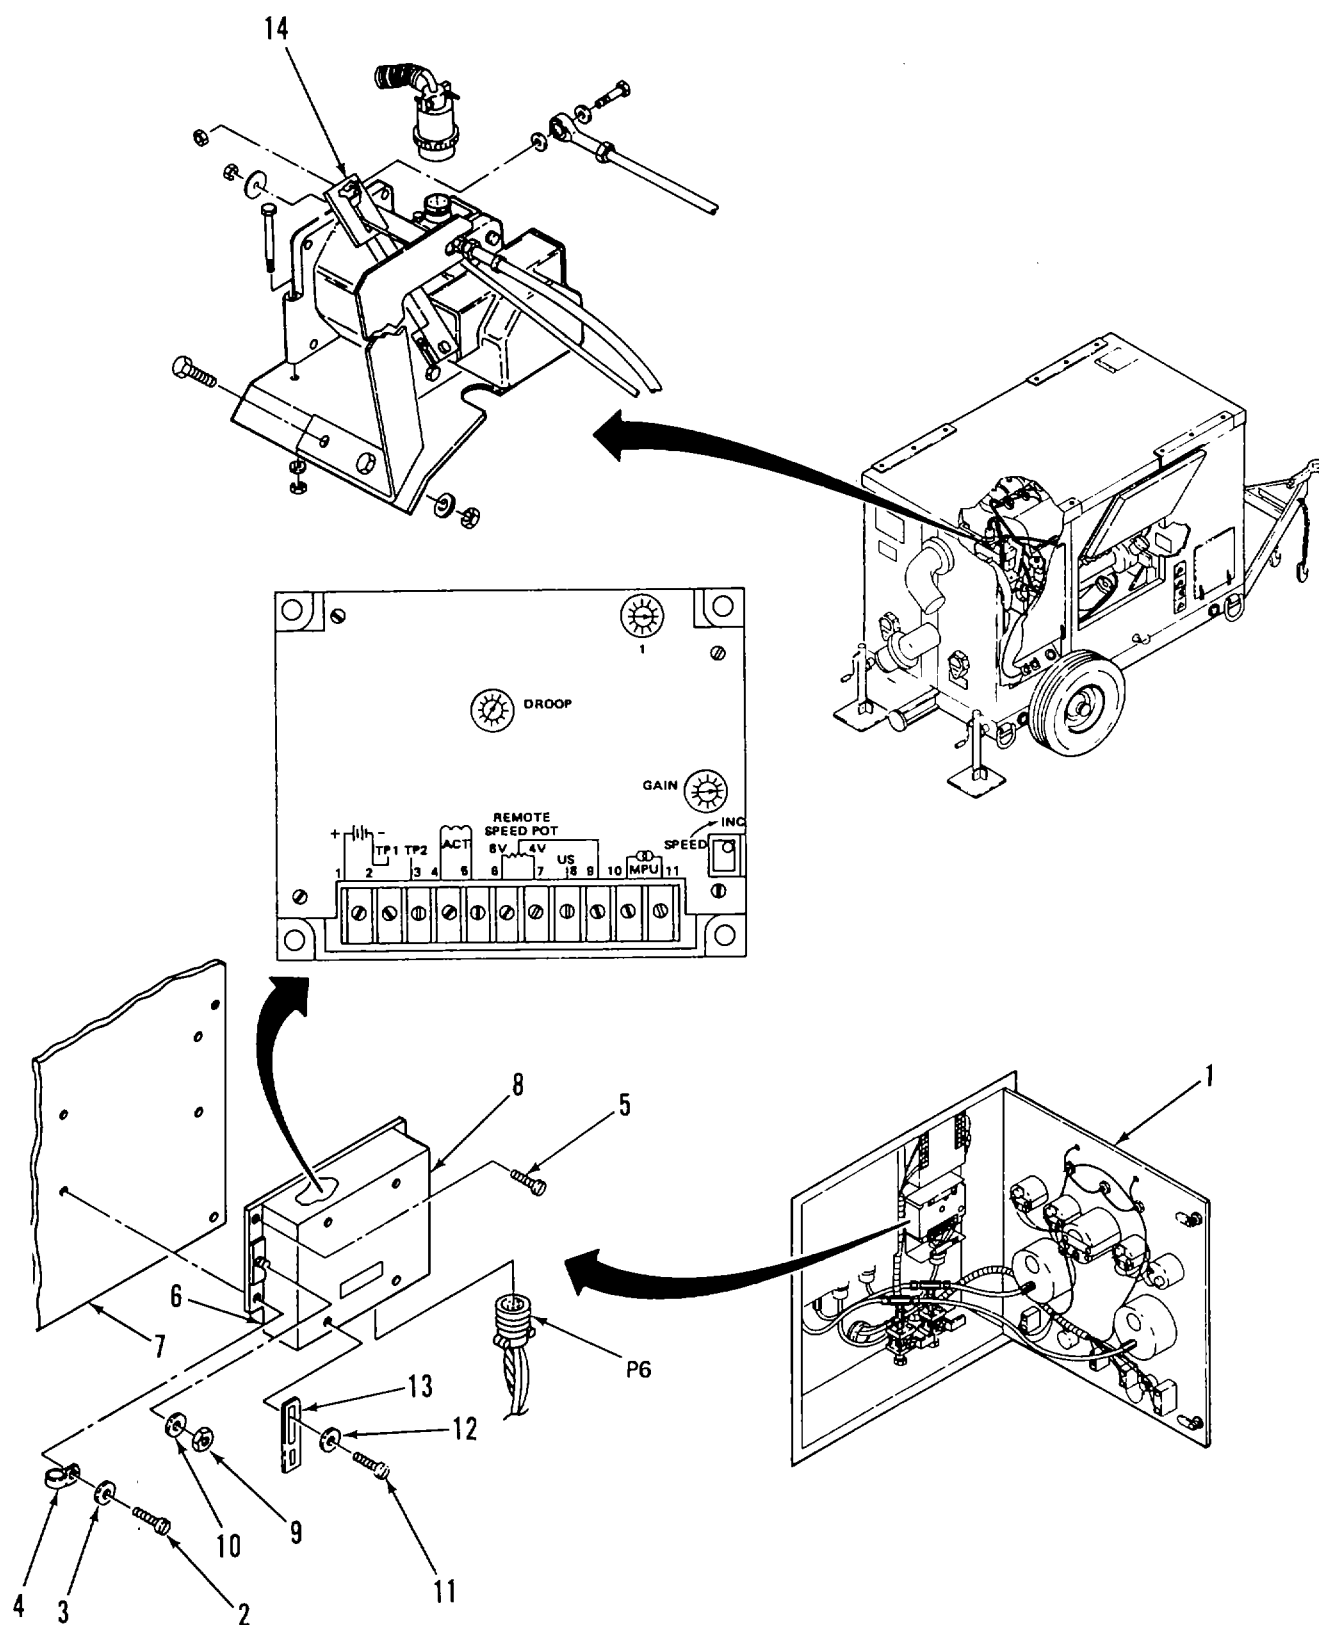

Figure 2-14. Governor Control Module
a. REMOVE. (Figure 2-14)
- (1) Open control panel door (1).
- (2) Remove screw (2), washer (3), and support clip (4) holding wiring harness.
- (3) Disconnect electrical connector, P6.
- (4) Remove screws (5) and governor control module (4).